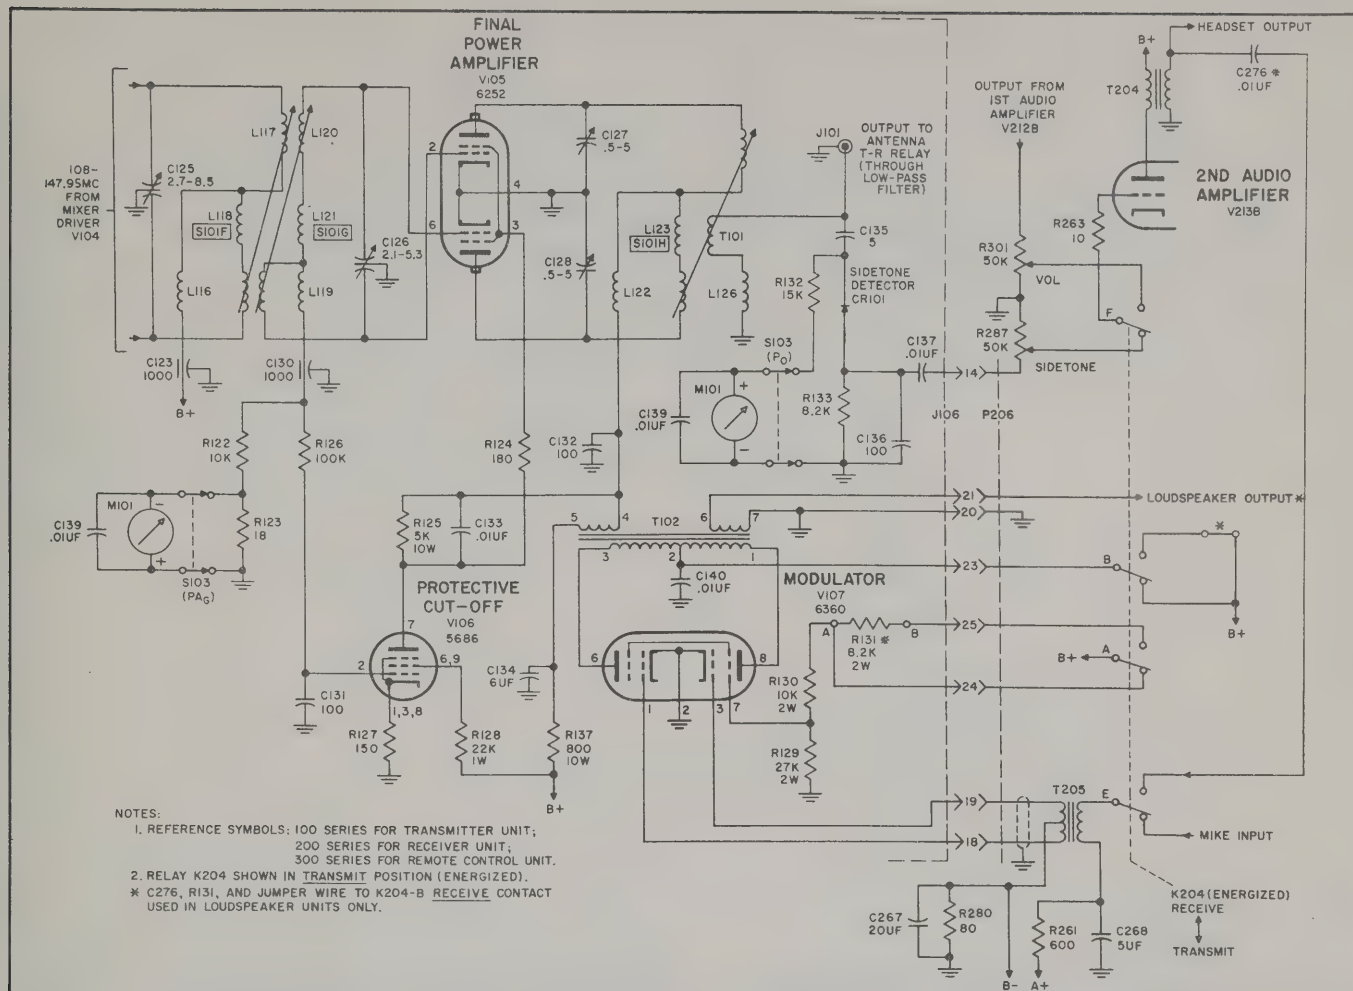

Figure 2-4. Transmitter Output and Modulator Circuits, Simplified Schematic Diagram
(1) Final Power Amplifier V105 and Protective Cut-Off V106 (See Figure 2-4)
(2) Modulator Circuit (See Figure 2-4)
Modulator V107 operates push-pull to apply the voice component of the transmitted signal to the plates and screens of V105. Referring to Figure 2-4, it can be seen that V107 has a second function. With Transmit-Receive relay K204 in the transmit position, the microphone input is coupled through T205 (in the receiver unit) to the grids of V107. In this configuration the circuit acts as a modulator. With Transmit-Receive relay K204 in the Receive position, the output of Second Audio Amplifier 213B is delivered, through plate coupling transformer T204, to T205, and the additional secondary of Modulator T102 is connected to the cabin loudspeaker. In this configuration, V107 acts as a booster amplifier for speaker operation. In headset units, the contacts of K204 performing this switching function are bussed, and the receiver audio output is delivered direct to the headset from V213B through plate coupling transformer T204.